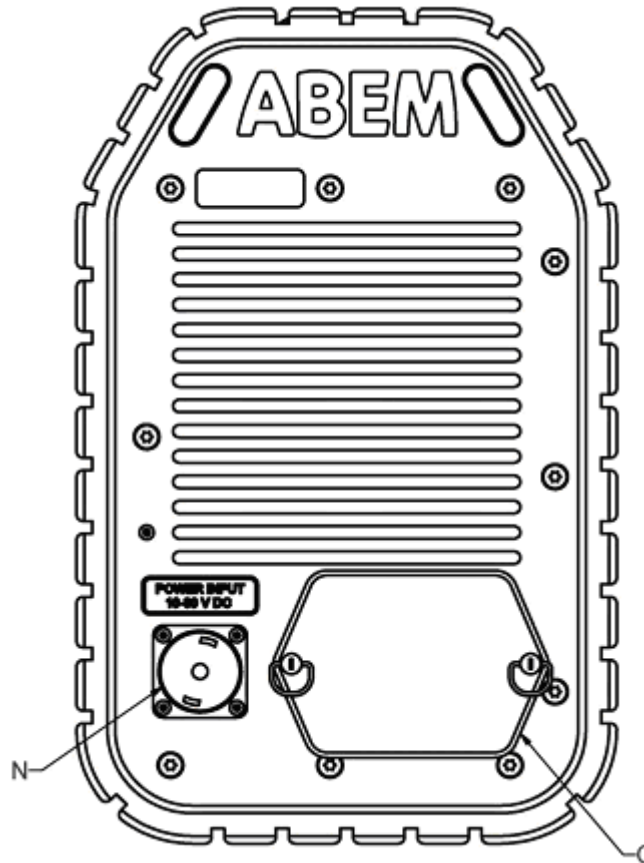

Figure 3 The Power panel
The power panel of the Terraloc Pro is shown in Figure 3. The Power Input connector is described in more detail in chapter 10 Appendix B. Connectors.
- Connect the power supply (see Figure 3 connector N) and switch on the instrument by pressing <POWER>